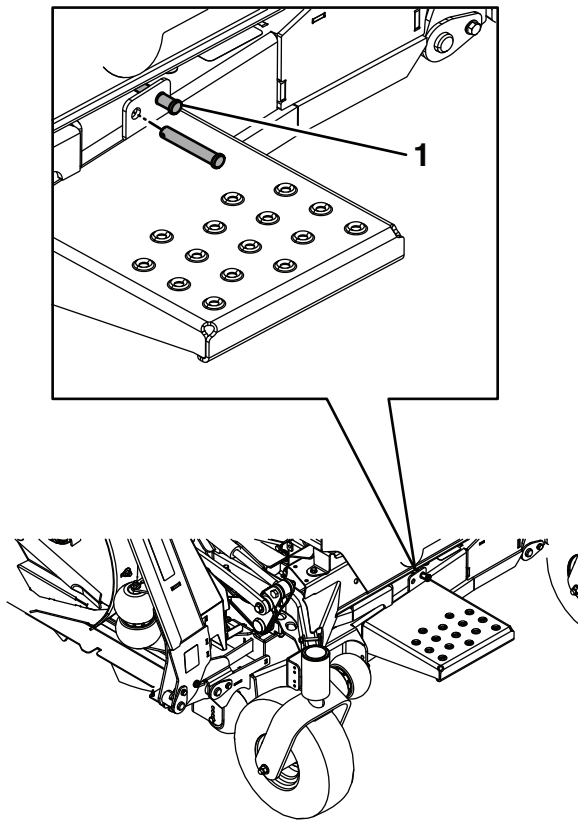
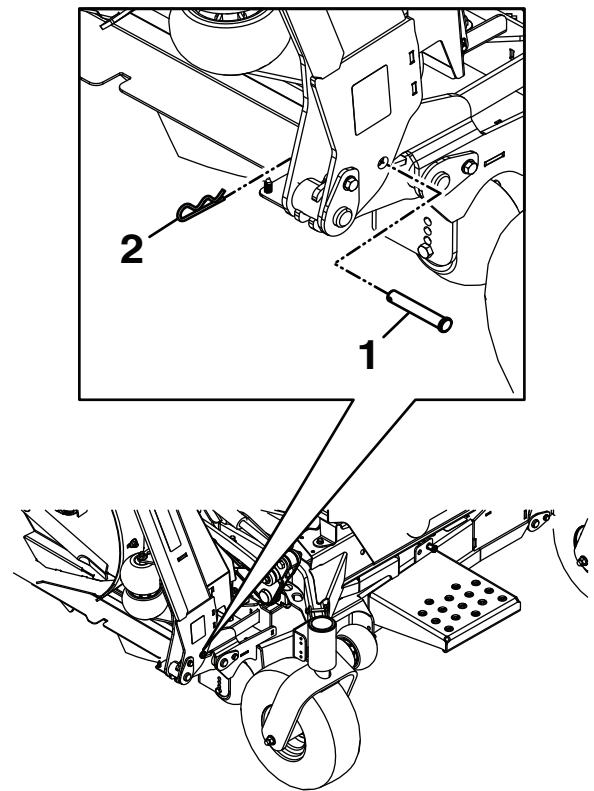

Figure 24
Figure 25
5. Remove the clevis pin and hairpin cotter from the storage location and secure each wing in the upright position (Figure 24 and Figure 25).